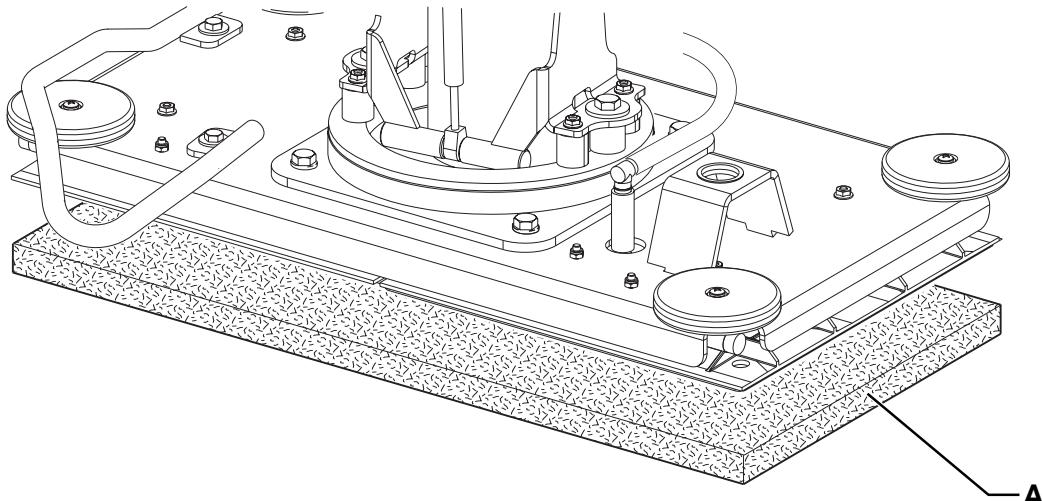

Figure 3
*Before turning on the switch (63), always check that between the deck (28) and the machine there is no foreign material which may prevent the deck from lifting.*
2. Lift the deck by pressing the switch (63).
3. Turn the ignition key (58) to "0" and remove it.
4. Install the pad (A, Fig. 3) so that it engages the plates on the BOOST® deck.